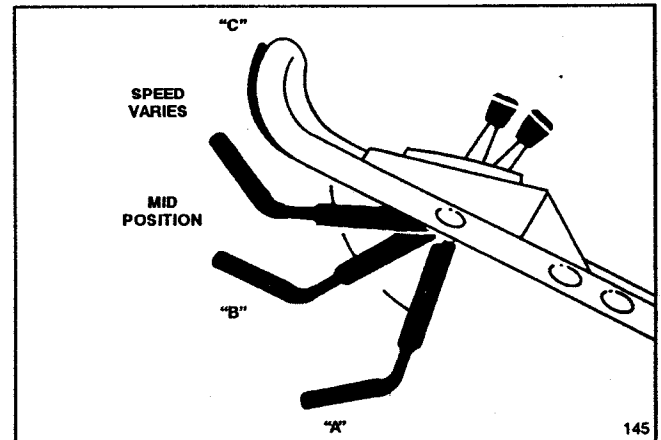

Figure 8
6. **BLADE AND TRACTION OPERATION** (Fig. 8)—Move control bar down to "A" and raise to "B" to engage blade. Squeeze control bar against handle "C" to drive. Ground speed varies, depending on space between control bar and handle. To disengage traction drive but keep blade engaged, gradually release control bar to mid position. To self-propel with blade disengaged, simply squeeze control bar against handle, eliminating downward movement necessary for blade engagement.
7. **STOPPING** (Fig. 8)—Release control bar to stop blade and traction drive. Move ground speed control to "N". To stop engine, move throttle to OFF. Remove key from switch on electric start model or pull wire off spark plug if mower will be unattended or not used.